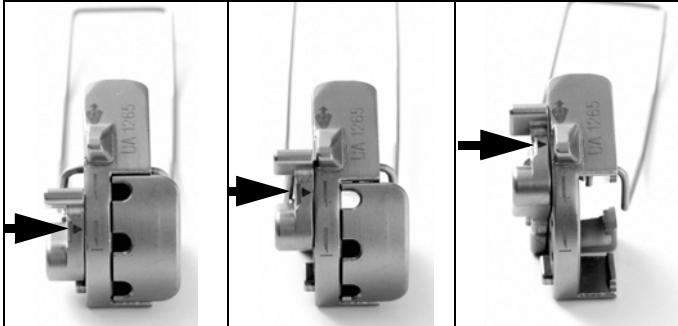

Fig. 11. The locked, open and release position of needle guide UA1265
2. Make sure the needle guide locking lever is pushed forward in the release position (see Fig. 11.).
7. Once the insert is fully in place, it must be locked in place by pulling the attached locking lever all the way backwards (see Fig. 11.). When the locking lever is in this position the needle guide hole is closed.
Needle guide UA1265 includes a locking mechanism that prevents involuntary advancement of the needle into tissue while positioning the transducer in difficult to access areas inside the abdomen (see Fig. 11.).
2. Remove the needle guide insert (if still attached) by pushing the locking lever all the way to the release position (see Fig. 11.).